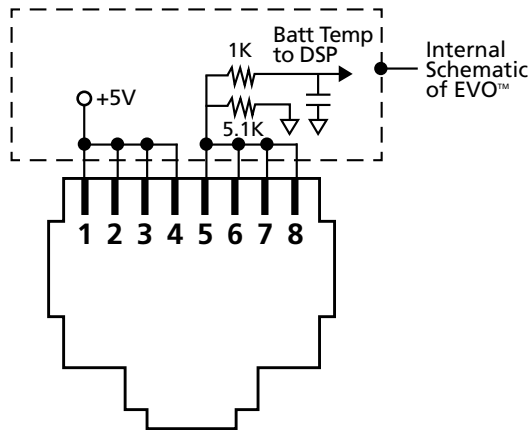

Fig 3.13 Pinout of RJ-45 Jack marked “Battery Temp Sensor” on the front panel of EVO™ (6 in Fig 2.1).
RJ-45 Plug [2 in Fig 2.5(b)]: The RJ-45 Plug is required to be plugged into the RJ-45 Jack marked “Battery Temp Sensor” on the front panel of EVO™ (6 in Fig 2.1). Pinout of the RJ-45 jack is shown in Fig 3.13.
Pinout of this RJ-45 Jack [marked “Battery Temp Sensor” on the front panel of EVO™ (6 in Fig 2.1)] is shown at Fig 3.13 below:
- o Connect to any of Pins 1/2/3/4 (Refer to Fig 3.13 for pinout of RJ-45 Jack. Pins 1 to 4 are internally shorted)
- o Connect to any of Pins 5/6/7/8 (Refer to Fig 3.13 for pinout of RJ-45 Jack. Pins 5 to 8 internally shorted)